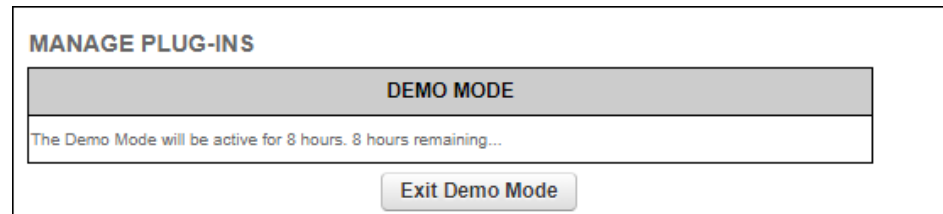

Figure 54. MANAGE PLUG-INS dialog (Demo Mode activated)
- The **Demo Mode** activation dialog will be shown (Figure 54 \(page 104\)). A countdown timer shows how much Demo time remains.